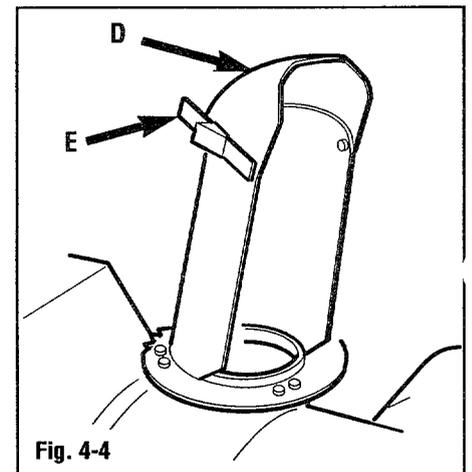

Fig. 4-4
8. Adjust the discharge chute deflector cap (D, Fig. 4-4) with lever (E) to the